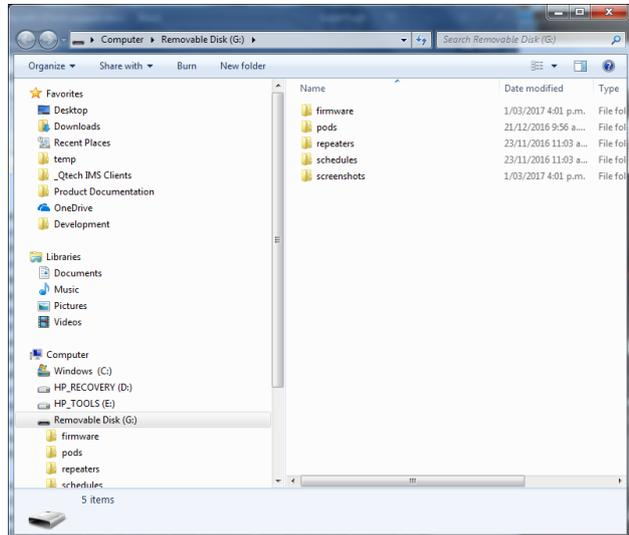

Figure 2
3. Using windows file explorer locate the SDCard removable drive. File Explorer will list the SDCard as an external removable disc (see figure 2 below)